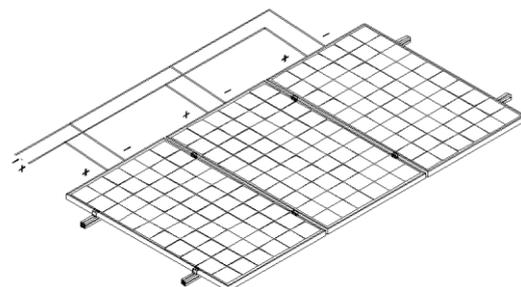

figure7 Parallel
- While connected in parallel, the output current is equal to the sum of current of each string (show in figure7). Use a fuse in each string of module; please refer to the application requirements locally. Recommended maximum parallel module configurations: Fuse rating/ $I_{sc}+1$.